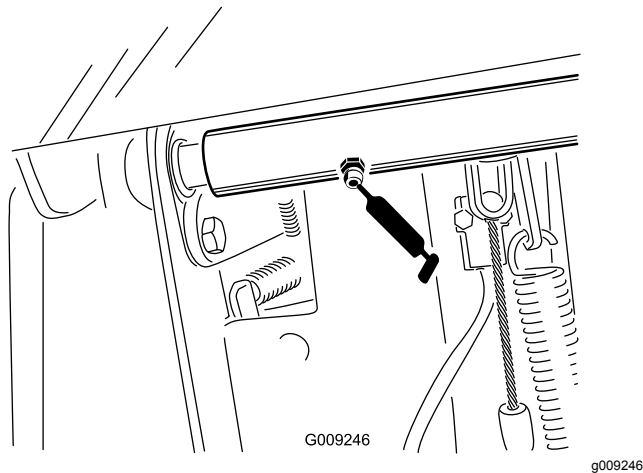

Figure 60
- Brake pedal pivot shaft bearings (2) (Figure 60)